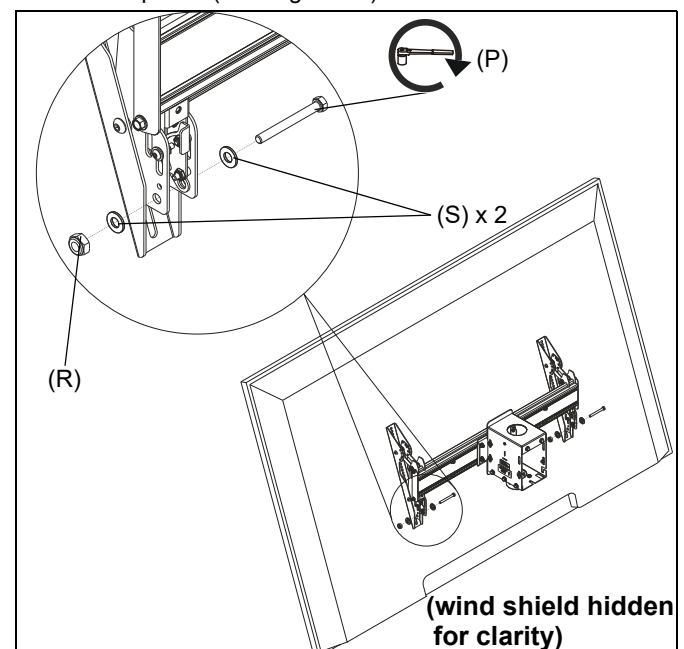

Figure 23
1. Use 5/16-18 x 2" hex head carriage bolt (P), 5/16-18 hex nut (R) and two 5/16" washer (S) to lock each interface bracket latch in place. (See Figure 23)